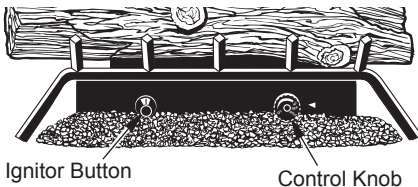

Figure 31 - Control Knob and Ignitor Button Location
5. Turn control knob counterclockwise ↶ to the PILOT position. Press in control knob for five (5) seconds (see Figure 31).